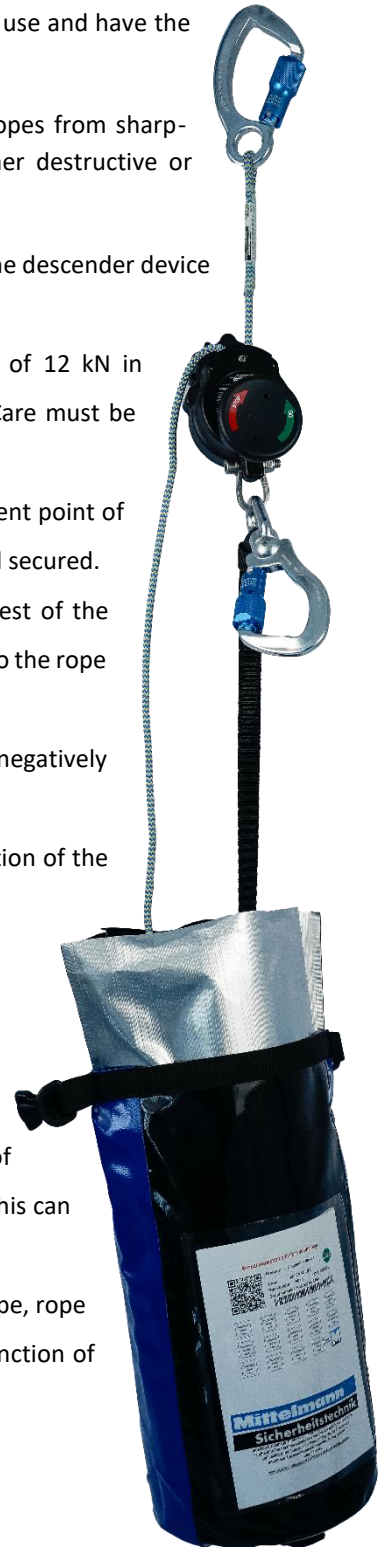

Figure 4
- The transport bag (see Figure 4) is guided down to the exit area together with the rest of the descent rope, or held by the person themselves. A flexible sling connects the descender to the rope bag, allowing it to hang below the person.